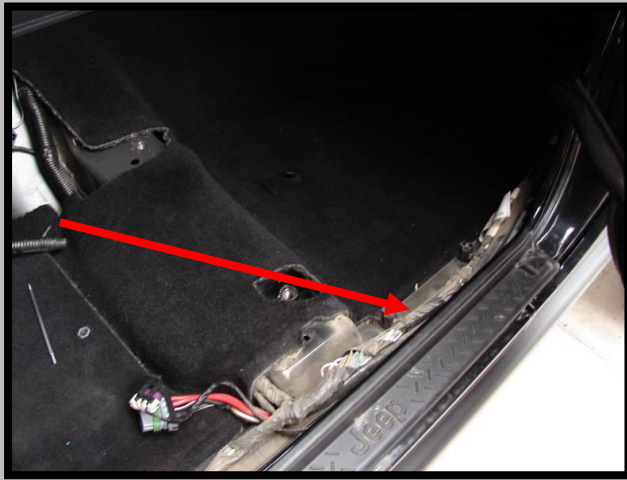
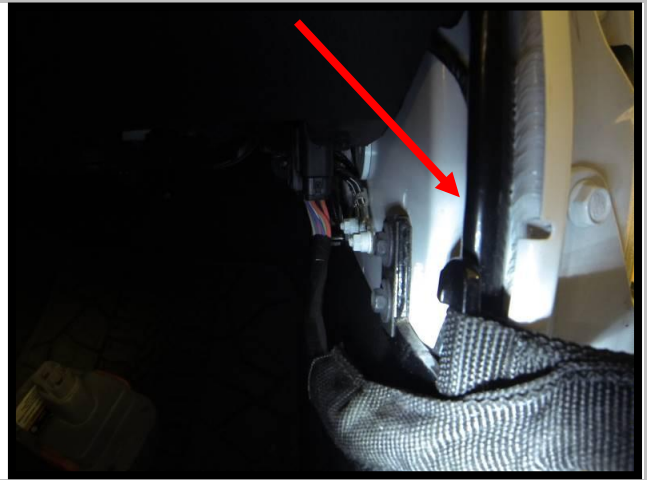

Figure 21
Figure 22
- 4-D) Run the ARB main power wiring harness down along the dash and along the rocker as shown in **Figure 21**. Run the harness directly behind the door strap hook (i.e. between hook and body, **Figure 22**). Reinstall the metal connectors into the 5-pin plug in the correct order you noted in **Step 4-A**. If you forgot, you can always match up against the connector on the compressor. **This must be done before attaching harness to the battery in the next step!**